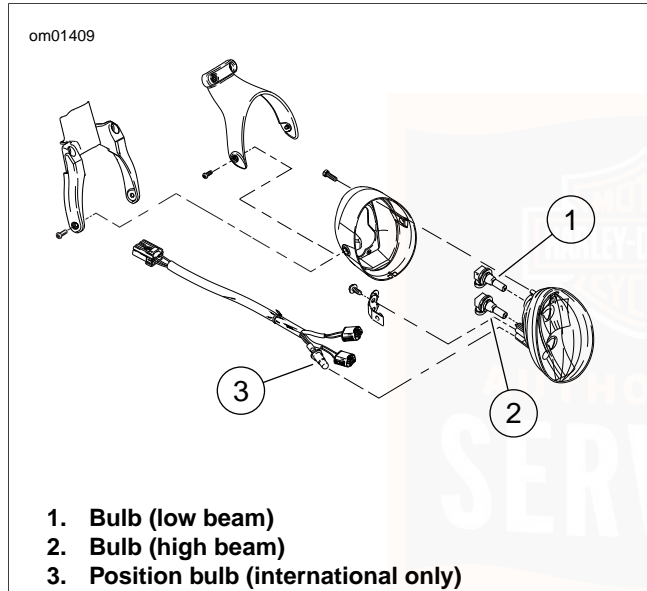

Figure 45. Headlamp Assembly: VRSCAW/VRSCF
2. See Figure 45. Reach behind the headlamp bucket and grasp the low beam (1) or high beam (2) bulb socket connector.